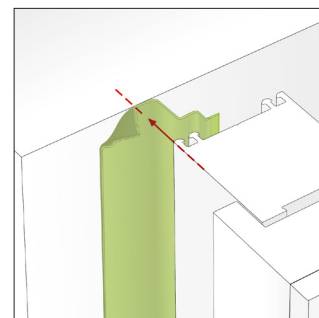

Fig. 2
- Bonding in 'W' format (Fig. 2):- peel off the liner from the
narrow self-adhesive on the printed face of the membrane and locate onto the outside edge of the frame in a suitable location (to flat profile rather than across profile 'legs' (see Fig. 2)). Apply a continuous length around all four sides of the frame. At each corner, allow an extra 20 mm forming a 'loop' and folding the membrane and bonding to itself. When the end section meets the start, allow a 50mm overlap. Once the membrane is applied, connect any fixing brackets as necessary over the membrane.